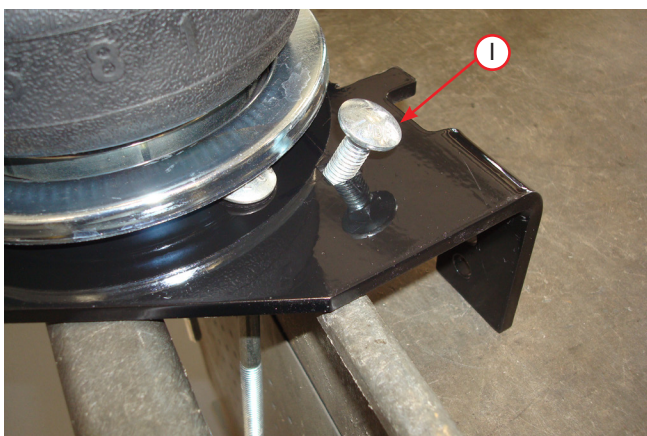

Fig. 13
- Insert the 3/8"-16 x 1" carriage bolt (I) (Fig. 13) through the top of the lower bracket. Flip over the assembly and install the lower bracket cup (C) onto the lower bracket main plate over carriage bolt and cap with serrated flange lock nut (Q) (Fig. 14). Snug bolt down but leave loose enough for the bracket to move freely in slot.